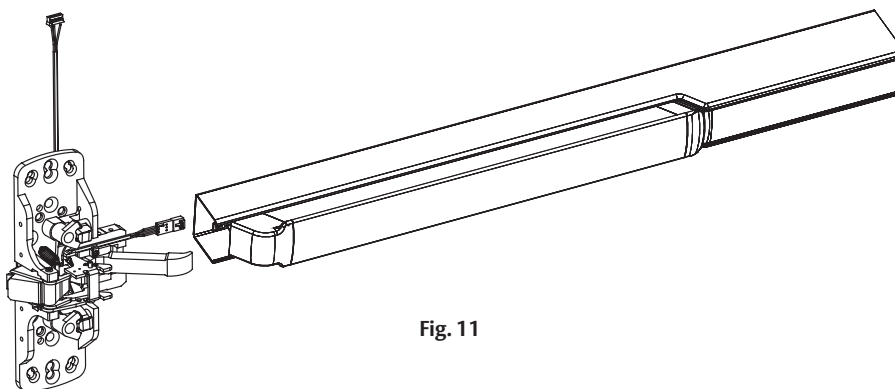

Fig. 11
7. Install rail assembly. (Fig. 11)